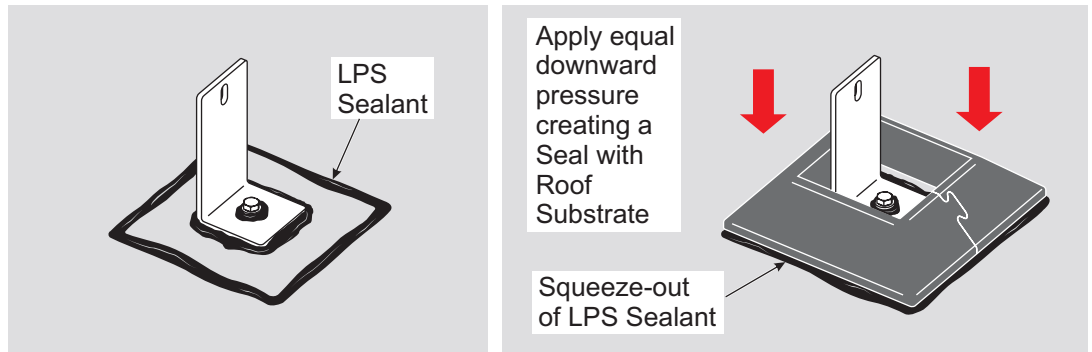

Figure 2-4: Attaching Lockin' Pocket to Roof Substrate
- F. Align the Lockin' Pocket to the reference line. Applying equal pressure all around its perimeter, press it firmly downward making a positive contact with the roof substrate. (See Figure 2-4)